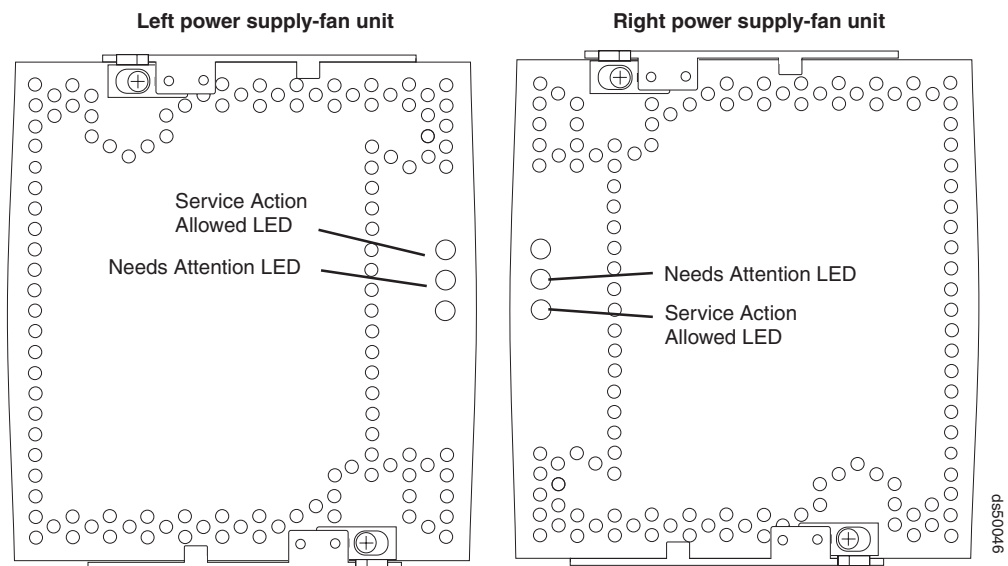

Figure 116. Power supply and fan unit LEDs
4. Locate the failed power supply and fan unit by checking that the power supply and fan unit Needs Attention LED that is turned on. (Figure 116 shows the LEDs on the power supply and fan unit.)
5. Is the Service Action Allowed status LED turned on? (Figure 116 shows the location of the Service Action Allowed status LED on the power supply and fan unit.)